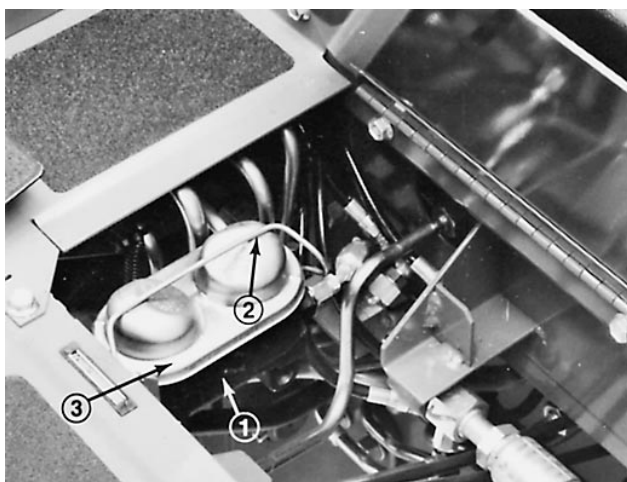

Figure 54
2. Snap the cover bail off the cover and remove the cover from the master cylinder (Fig. 54).